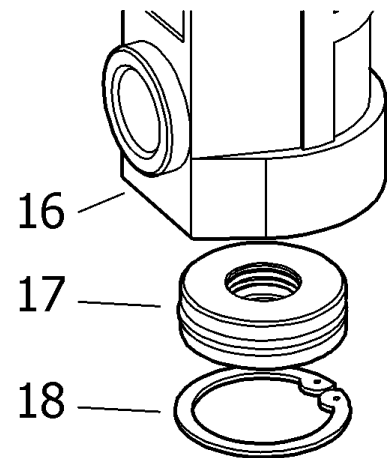

Fig. 11
1. Follow the procedure for the air motor until the air piston (8) has been removed from the air motor body.
2. Remove the snap-ring (18) and the packing set (17) from the air motor body (16). Replace if damaged.
3. Assemble the pump following the previous instructions, reversing each step. **NOTE:** The packing set is directional and must be installed with the seals positioned as shown in fig.12. (Fig.11 and fig.12 reflect the same orientation of the pump.)